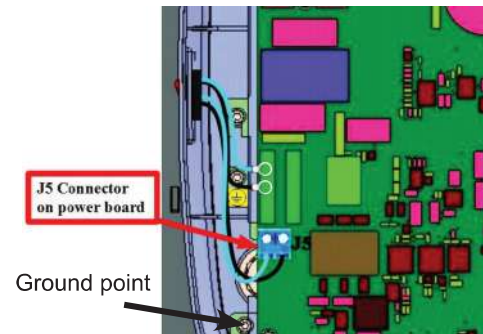

Figure 88
- Disconnect the wires(Pin terminals) from the J5 connector on the power board using a Jewel screw driver as shown in Figure 88 (Live=Black & Neutral=Blue).
- Connect the wires(Pin terminals) coming from the switch to the J5 connector on the power board (holding the connector firmly by hand) as shown in Figure 88 (Live=Black & Neutral=Blue) using a Jewel screwdriver.